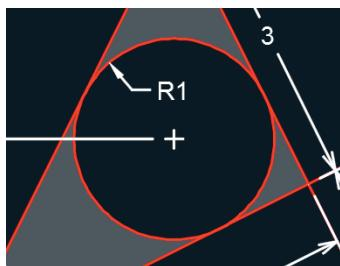

FIGURE 11.18 Adding a radius dimension
10. Open the dimension menu in the Annotation panel, and select the Radius tool. Select the circle, and then click a point inside the circle to locate the radius value (see Figure 11.18).